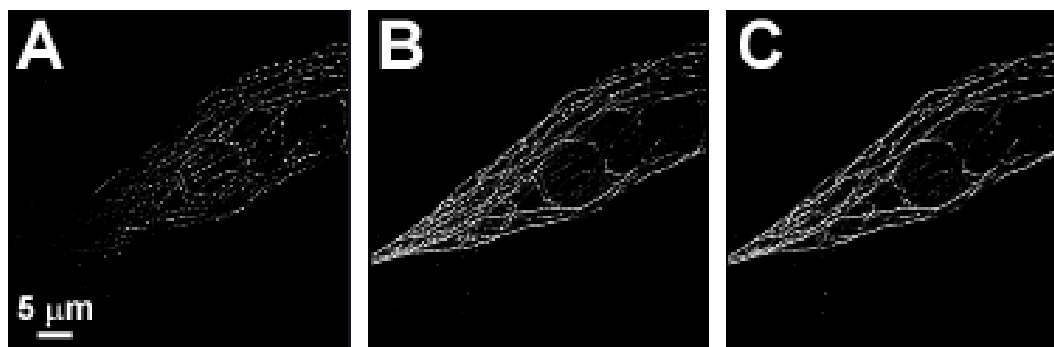

Fig. 317 Analyzed data set of Fig. 316 using **discard overlapping molecules (A)**, **ignore overlap (B)** and **account for overlap (C)**.
- If **discard overlapping molecules** is selected, all overlapping peaks, indicated by red circles will be discarded. This will result in the highest accuracy, which is defined as the deviation of the fitted to the real peak position and localization precision (the standard deviation from the fit) (Fig. 317, **A**). This method is therefore the method of choice for single emitters and little overlap.
- If **ignore overlap** is selected, all single and overlapping peaks will be taken into account. However, fit accuracy will be decreased when multi-emitter events are fitted as the distribution of one emitter will influence the distribution of an overlapping one without this fact taken into account. Hence accuracy might suffer for multi-emitter events whereas localization precision will be sustained (Fig. 317, **B**). This method is most suitable for slightly overlapping molecules.
- If **account for overlap** is selected all single and multi-emitter events will be taken into account. For multi-emitters the overlap of neighboring molecules is taken into account so losses in accuracy are minimized. There will be a slight decrease in the localization precision (Fig. 317, **C**). This method should be used, when molecules heavily overlap.